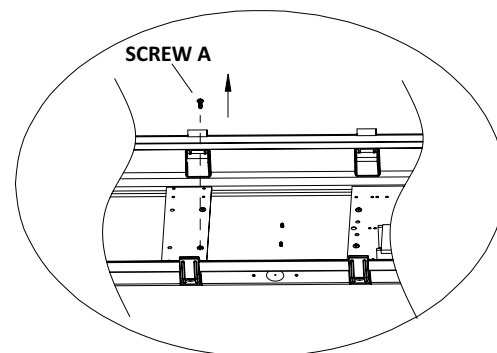

Figure 1A
2. Loosen the Screw A indicated in Figure 1A.